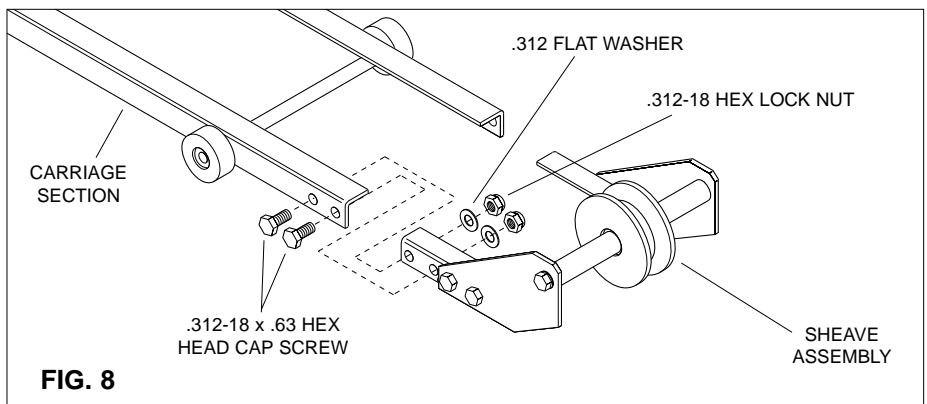

FIG. 8
STEP 2: Attach sheave assembly to each end of assembled carriage as shown in Fig 8 using same size bolts, washers, and locknuts used in STEP 1.